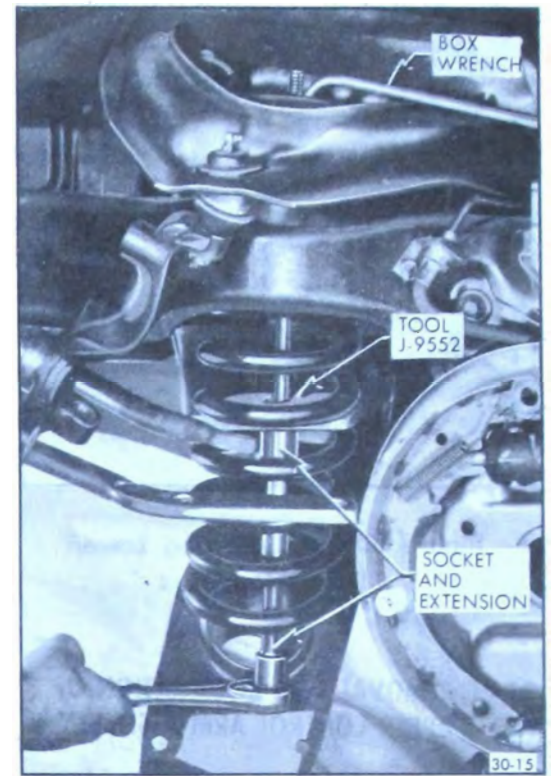

Figure 30-40—Compressing Front Spring With Tool J-9552
4. Place a box wrench on the upper nut of the tool to keep it from turning. Now tighten the bolt with a 7/8" socket and extension. See Figure 30-40.